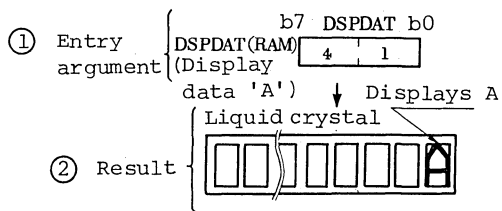

Figure 12-12. Example of EXPDSP Execution
- b. Example of EXPDSP execution is shown in figure 12-12. If entry argument is as shown in part ① of figure 12-12, a character is displayed on the LCD as shown in part ② of figure 12-12.